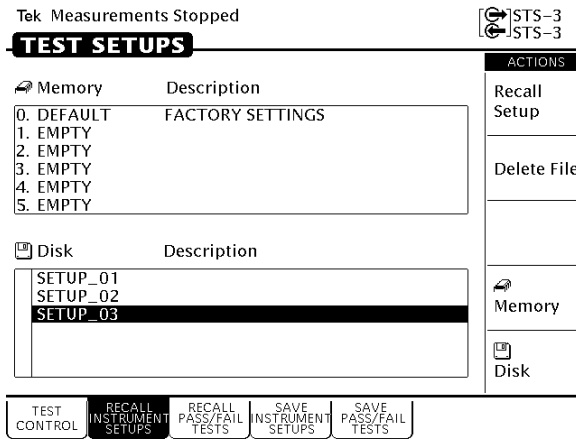

Figure 3–13: Selecting a Disk File for Deleting
- Use the knob to select the file to delete (see Figure 3–13).
A pass/fail test is an easy way to run a test and get a simple response stating whether or not the CTS 710 encountered the specified errors during the test. When a pass/fail test completes, the CTS 710 displays a message stating that either the test passed or failed. Pass/fail tests are set up in the TEST SETUPS menu on the SAVE PASS/FAIL TESTS page (see Figure 3–14). A pass/fail test consists of instrument setup information and the parameters described in *Parameters of a Pass/Fail Test*.